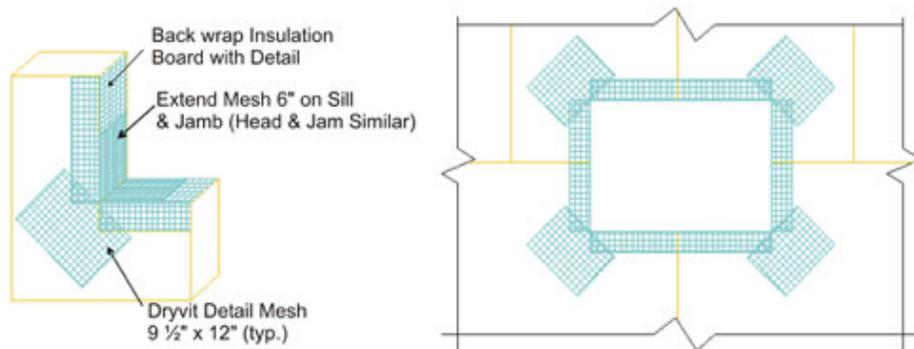

Figure 6
- 8.3.18. Corners of all openings such as windows, doors, mechanical equipment and all penetrations shall be reinforced with Detail Mesh placed diagonally to the opening as illustrated in Figure 6.